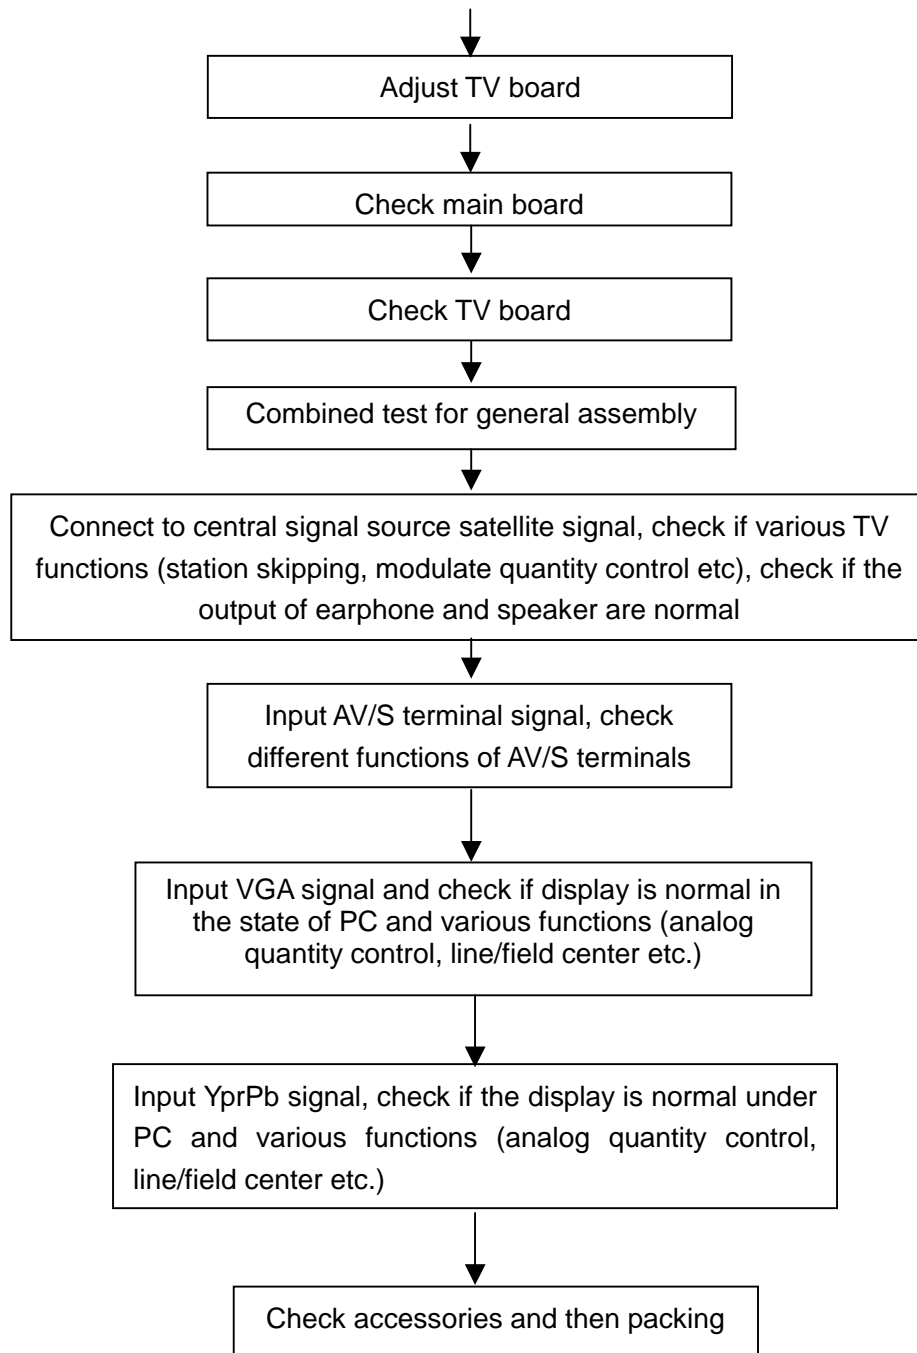

Figure 1. Flow process of adjustment and calibration
2.Flow chart for the adjustment and calibrationSee fig.1.